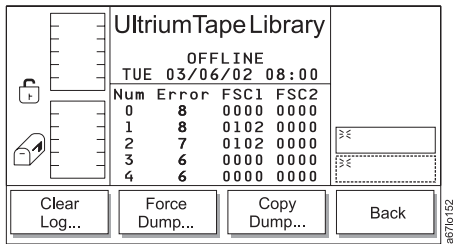

Figure 4-57. Drive Error Log Options Submenu
2. Press the button below the **Options** softkey. The Drive Error Log Options Submenu displays (see Figure 4-57 on page 4-35).
5. To return to the Drive Error Log Options Submenu (see Figure 4-57), press the button below the **OK** softkey. To return to the Main Menu, press the button below the **OK** → **Back** → **Cancel** → **Back** softkeys. Continue to press the button below the **Back** softkey until the Main Menu displays.